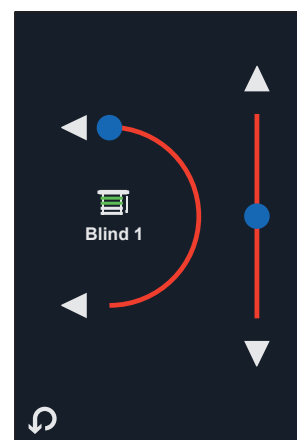

Fig. 9c 'Level + Tilt'
- translatory + rotary movement "Level + Tilt" (Fig.9c)